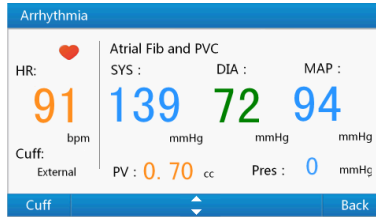

Figure 18 Arrhythmia BP simulation interface
- 1) Select "Arrhythmia" in "BP Simulation Menu" or use number key "6" to the arrhythmia BP simulation interface shown as Figure 18.